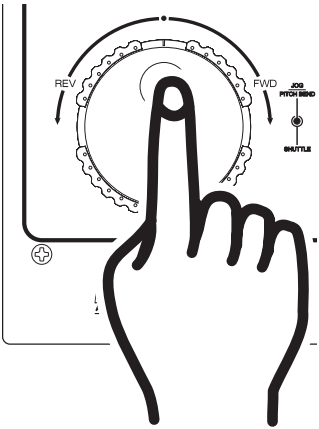

Figure 19
This function will increase or decrease a tracks playback speed or "PITCH," this is not a momentary change as in "PITCH BENDING" (see page 19). The maximum pitch bend percentage allowed is  $\pm 16\%$ . The *PITCH SLIDER* (21) is used to decrease or increase the playback pitch. If the slider is move up (towards the top of the unit) the pitch will decrease, if the slider is moved down (towards the bottom of the unit) the pitch will increase. The *PITCH SLIDER* (23) adjustment can be changed to range from  $\pm 8\%$ ,  $\pm 12\%$ , or  $\pm 16\%$  (See changing "PITCH SLIDER PERCENTAGE RANGE" figure 19/page 20). The pitch adjustments will effect playback, reverse playback, and loops.